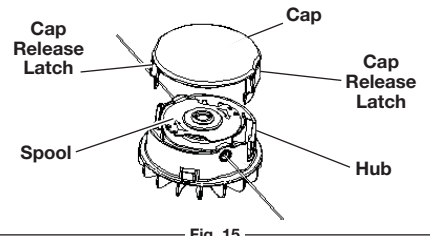

Fig. 15
1. Press and hold the two cap release latches (Fig. 15).